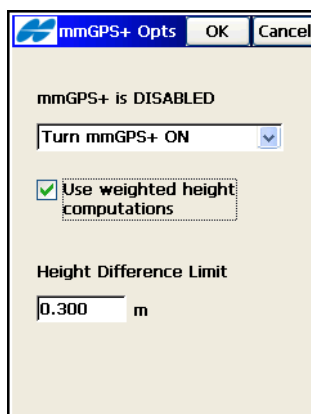

Figure A-23. Select mmGPS+ Options
2. On the *mmGPS+ Opts* screen (Figure A-23 on page A-15), select the following options:
3. *Height Difference Limit* – enter a value here between the GPS result and the mmGPS result (Figure A-23). tap **OK**.